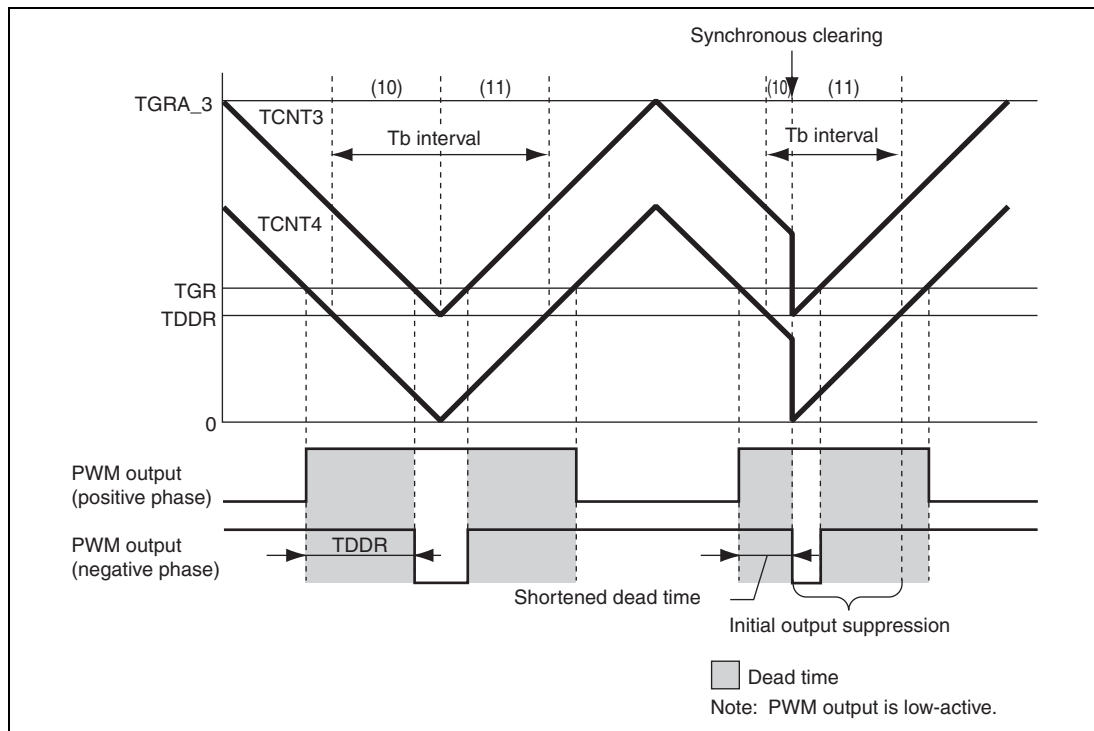

Figure 11.137 Condition (1) Synchronous Clearing Example
Condition (1): When synchronous clearing occurs in the PWM output dead time interval within initial output suppression interval (10) (figure 11.137).